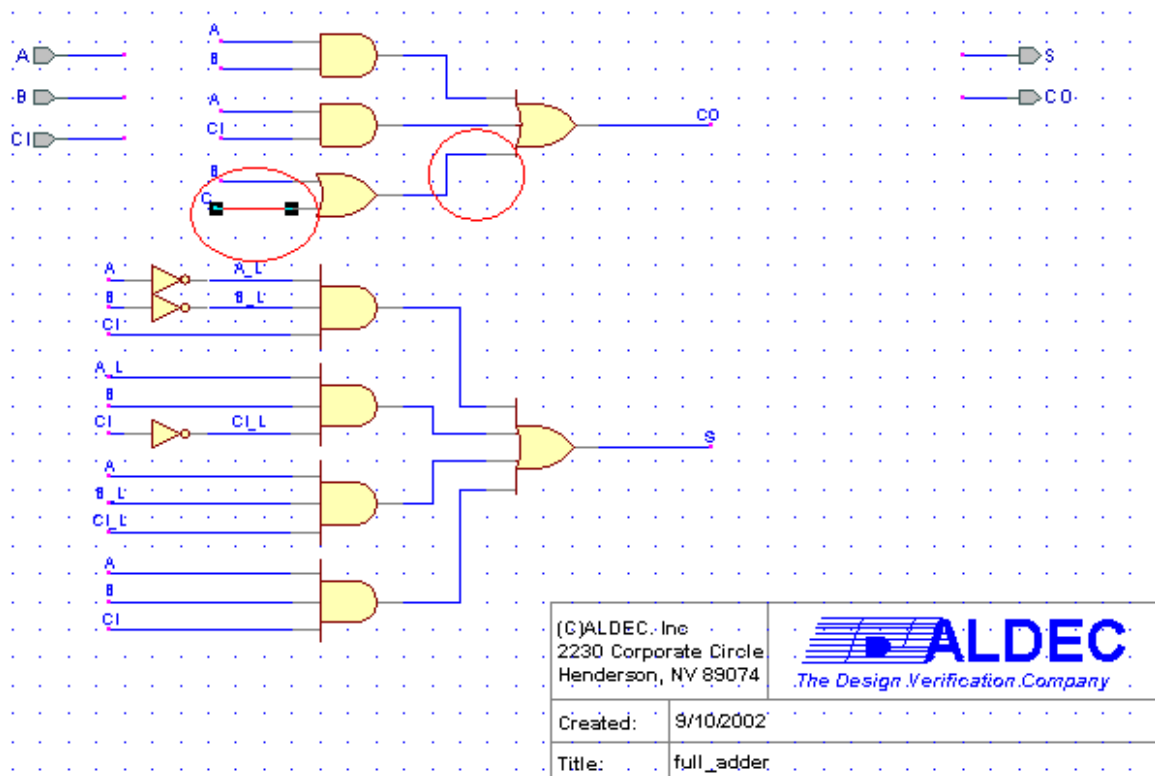

Figure 44
2. Clicking on the first line took us to the broken connection on the 3-input OR gate. The part in question was highlighted in a red box (not shown here). Therefore, we simply reestablished the connection by dragging the hanging wire to the 3-input OR gate port (shown fixed in Figure 44).
3. The second warning showed that net 'C' was without a source. Again, we clicked this hyperlink, and it took us to our schematic and highlighted the wire named 'C' in red (see Figure 44). The connection looked fine, but notice that we have no terminals by the name of 'C'. The terminal we wanted to connect from was 'CI'. This kind of mistake is common when using naming connections, and Active-HDL is good at alerting us to this mistake.